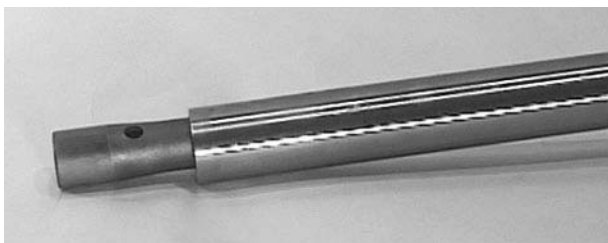

Figure 8-6. Tilting the Body/Anvil to Access the Striker.
4. Tip the Body/Anvil (1) so the end of the Striker (2) slides out of the body/anvil about six to eight inches. (Figure 8-6).